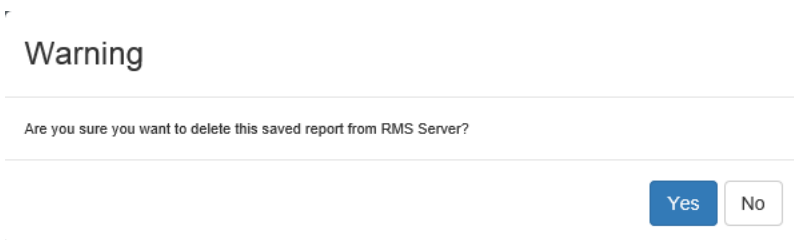

FIG. 64 Warning - Deleting a Saved Report
3. The system will prompt you to verify this action (FIG. 64):